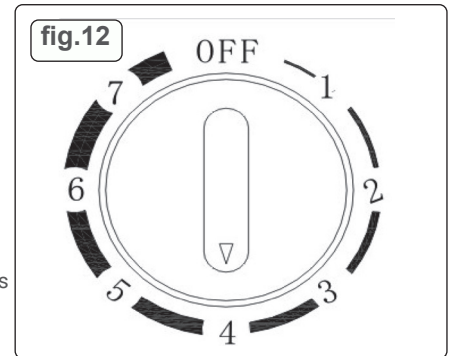

fig.12
- 2.Turn the thermostat knob to the "2" position (fig.12), and plug the fridge into the wall outlet. The compressor will begin to run.